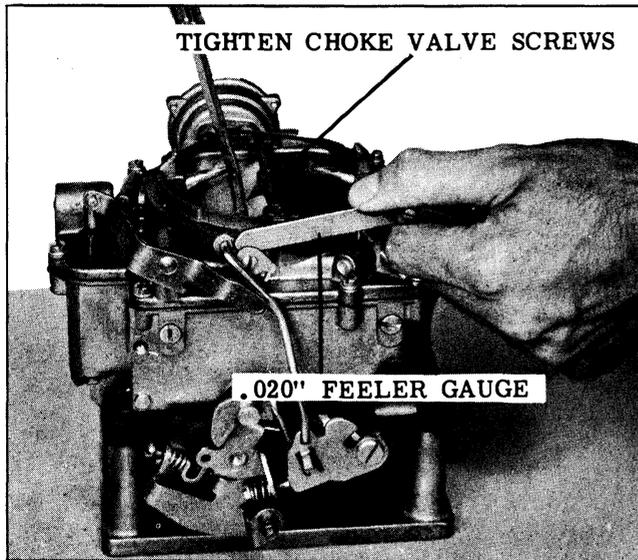

Fig. 8-105 Trip Lever Clearance
12. To provide correct fit of the choke valve in air horn, push slightly on the end of choke shaft to obtain a minimum clearance of .020" between the trip lever and choke counterweight as shown in Fig. 8-105.